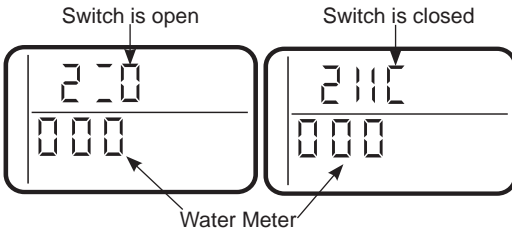

Figure 18
1. Press and hold **MODE/SET** for 3 seconds until the Set low salt alarm display appears, next press the **MODE/SET** button two additional times until "000" shows in the display, then release, see Figure 18.
3. Symbols in the display indicate POSITION switch operation, (see Figure 18).